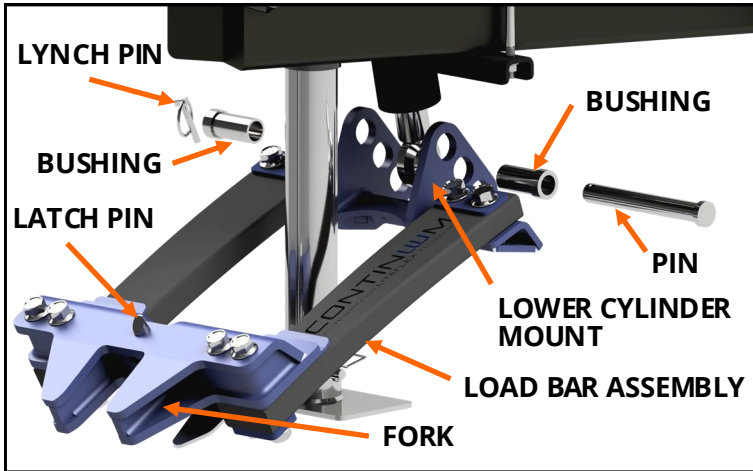

FIGURE G1: View of the load bar assembly under the trailer.
2. **Attach the load bars to the hydraulic cylinder.** Retrieve the load bar assembly. Remove the pin and bushings from the lower cylinder mount. Raise the trailer jack high enough that the load bar assembly can slide under it. Pin the hydraulic cylinder to the center hole in the lower cylinder mount using the removed pin and bushings, see **Figure G1**.